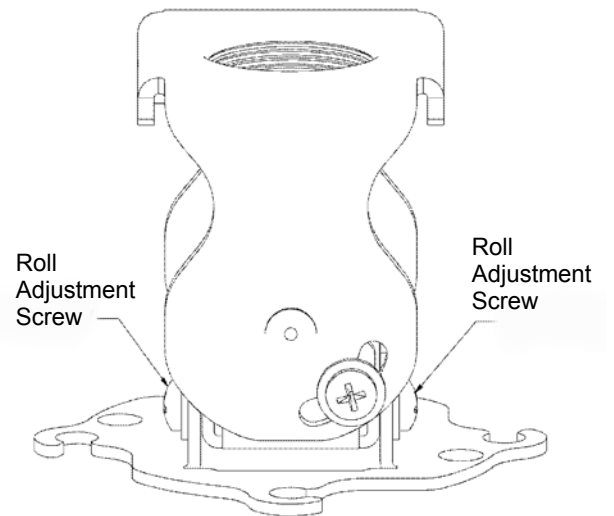

Figure 12. Roll Adjustment Screws
1. Loosen the 10-24 x 3/8" roll adjustment screws on each side of the adjustment plate (see Figure 12).